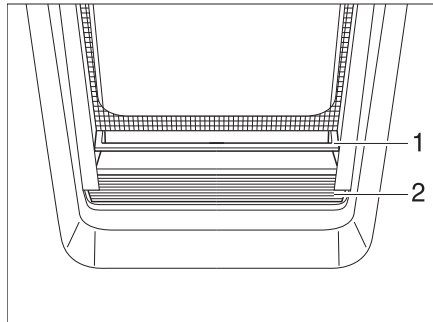

Fig. 46 Roman shade
- Grip the Roman shade (Fig. 46,2) in the middle of the holding bar (Fig. 46,1), pull it upwards and then release it at the desired height. The Roman shade will stay at this height.